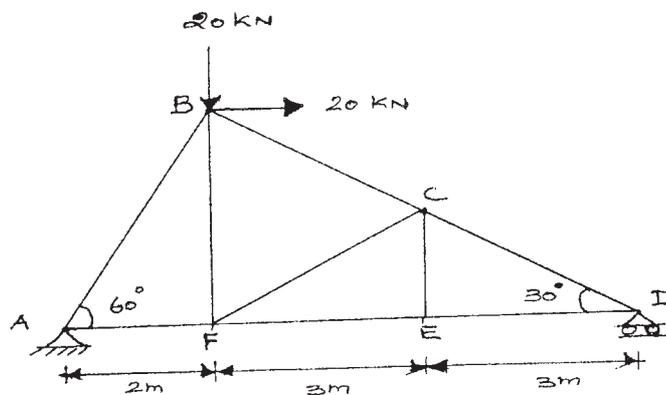

Fig. 2
11. Determine the magnitude and nature of forces in the member of the frame Fig. 2 by the method of joints.